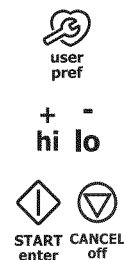

Figure 13: Clock 12 hour (L) or 24 hour (R) display
1. Press **user pref** until the preset **12hr clock display** mode appears (Figure 13).
1. Use **+hi** or **-lo** to toggle to the **24hr** option (Figure 13).